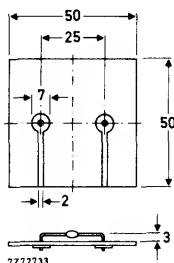

Fig. 2.
2. Thermal resistance from junction to ambient when mounted on a 1,5 mm thick epoxy-glass printed-circuit board; Cu-thickness $\geq 40\ \mu m$; Fig. 2